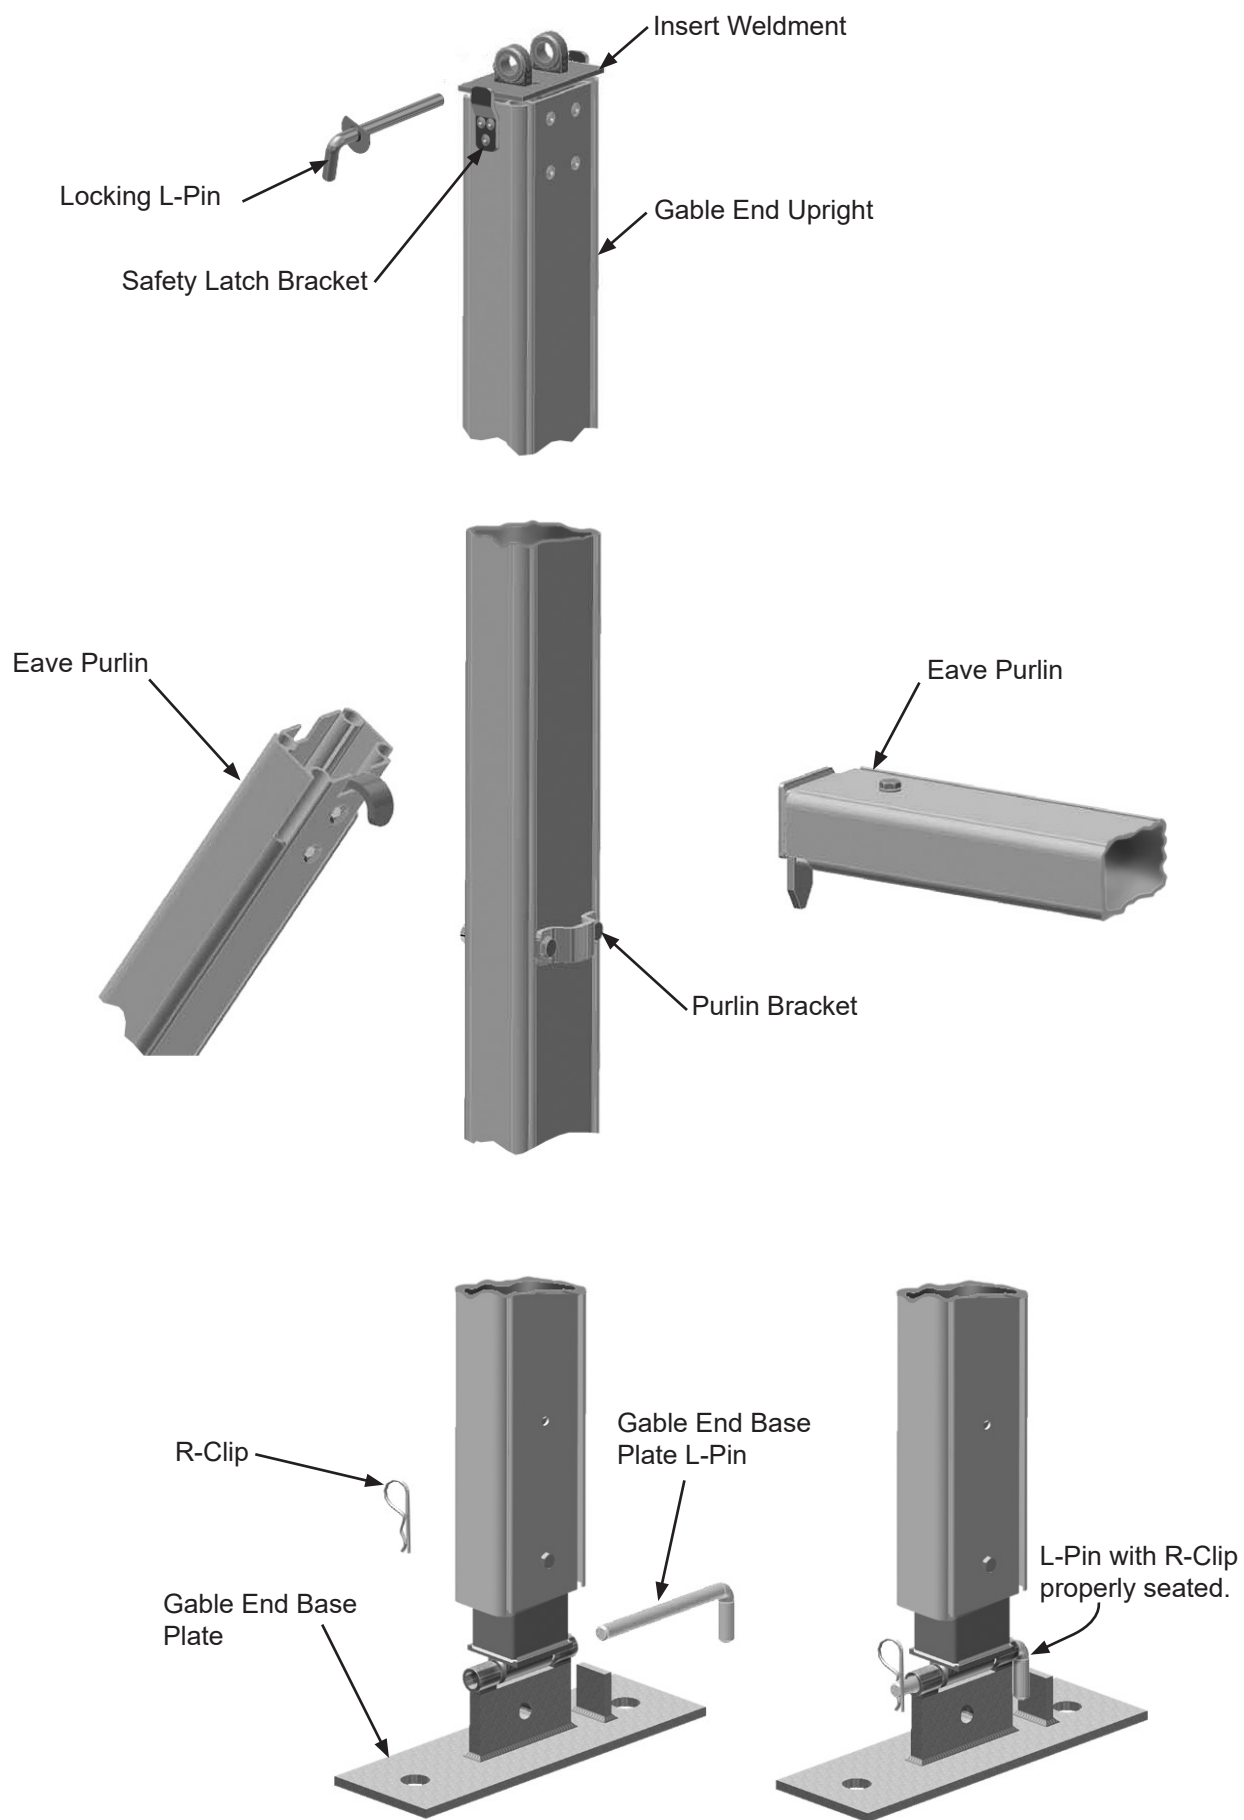

Figure 3.5d
3.5.4 After the G.E. Uprights are connected to the arches, swing the G.E. Upright out from either side of vertical and insert the G.E. Base Plate into the bottom of the G.E. Upright. Swing the upright back to vertical. Adjust the G.E. Base Plate in or out to suit the adjoining grade and pin using the G.E. Base Plate L-Pin and R-Clip. See **Figure 3.5d**. **IMPORTANT:** Do not stake at this time.
3.5.6 Install the gable end eave purlins by starting with the G.E. Wing Eave Purlins. Place the hooked end over the bolt installed in step 3.5.5 and drop into place. See **Figure 3.5c**. Swing the opposite end with the adjustable eave hook up until the hook is above the bracket on the G.E. Upright, align and drop into place. See **Figure 3.5d**. Using the purlin fork to pivot the eave purlin into place will allow the installer to work from the ground.
3.5.7 Install the remaining gable end eave purlins between the G.E. uprights by first connecting the curved hook into the G.E. upright bracket then swing the opposite end with the adjustable eave hook up until the hook is above the bracket on the G.E. Upright, align and drop into place. See **Figure 3.5d**. Using the purlin fork to pivot the eave purlin into place will allow the installer to work from the ground.